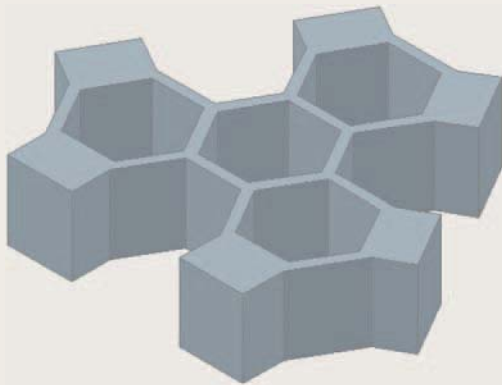

Fig. 12.48 Exercise 3
3. Figure 12.48 shows the 3D model from Exercise 2 acted upon by the **Presspull** tool which can be called by entering **presspull** at the command line. With the 3D model from Exercise 2 on screen and using the **Presspull** tool, construct the 3D model shown in Fig. 12.48. The distance of the pull can be estimated.